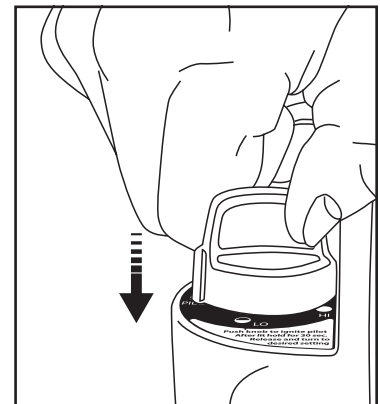

Figure 3: Ignition
- Turn Control Knob counterclockwise to "PILOT" position and depress to light; see Figure 3.
- Turn Control Knob counterclockwise to "PILOT" position and depress to light; see Figure 3. This may take longer to purge air from the supply hose depending on the length of the hose being used.